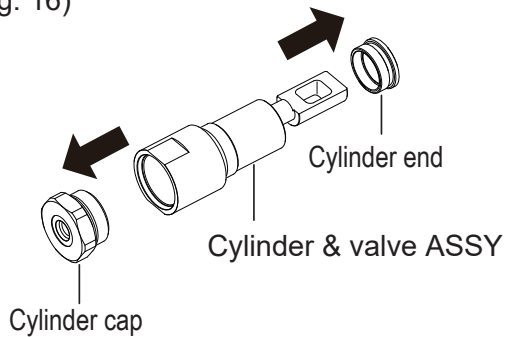

Fig.16
(1) Disassembly
- a. Disassemble the cylinder cap and the cylinder end from the cylinder & valve assembly. (Fig. 16)